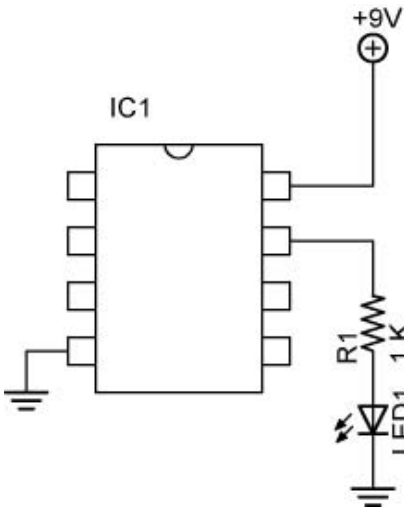
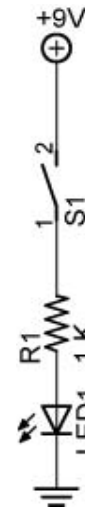

Figure 38 - Chip Acting as a Source
Figure 39 - Chip Acts as Switch S1
- **Chip as a Source:** In Figure 38 below, when the pin connected to R1 goes HIGH, the chip connects the source voltage (+9V) to the load (the LED), similar to the switch in Figure 39.